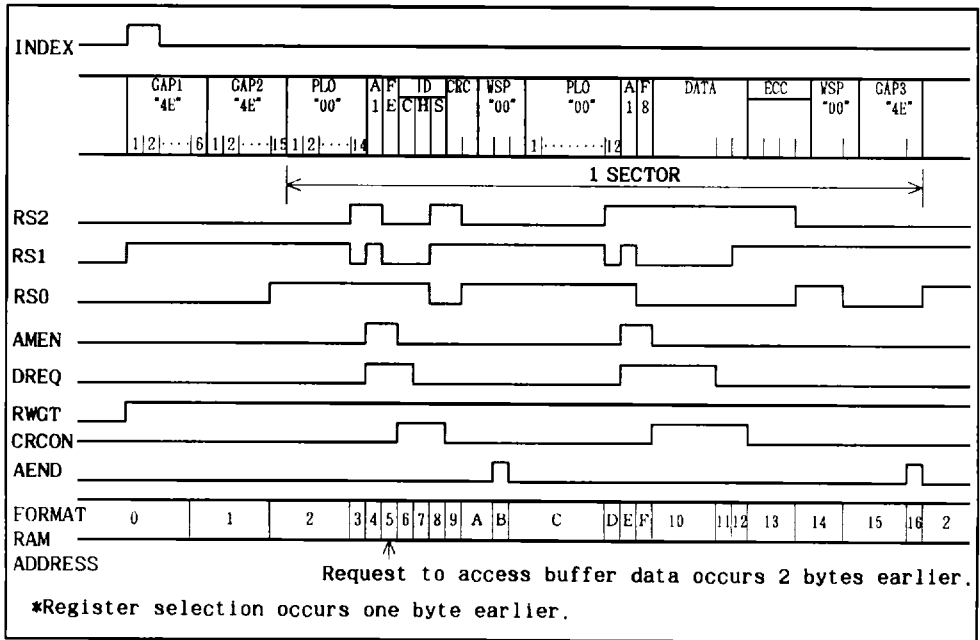

Fig. 5.4.3B Format 1
- ADR00 : The format operation start on INDEX pulse receiving as is shown Fig.5.4.3B. The initiating entree of Format RAM is forced to "0" independently with the value set in FTADR.